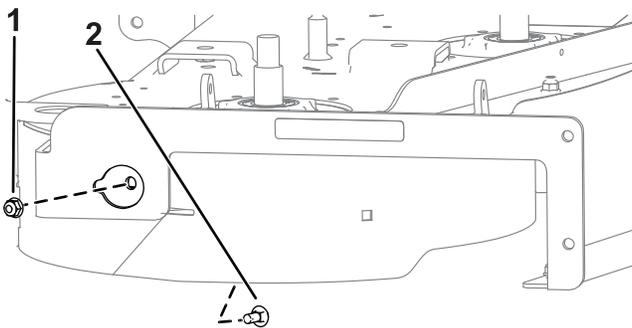

**Figure 2**
1. Install the right baffle using 2 nuts (5/16 inch) as shown in Figure 2. Tighten the fasteners by hand.